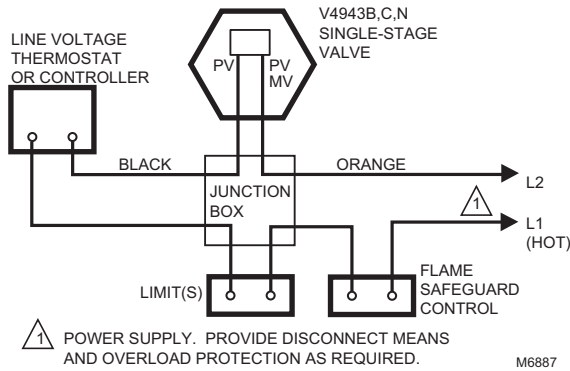

Fig. 11. Typical wiring diagram for V4943B,N.
7. Make electrical connections as illustrated in the wiring diagrams (see Figs. 11–14).
5. See Fig. 11 through 14 for typical field wiring connections. Follow the burner manufacturer wiring diagram, if provided.